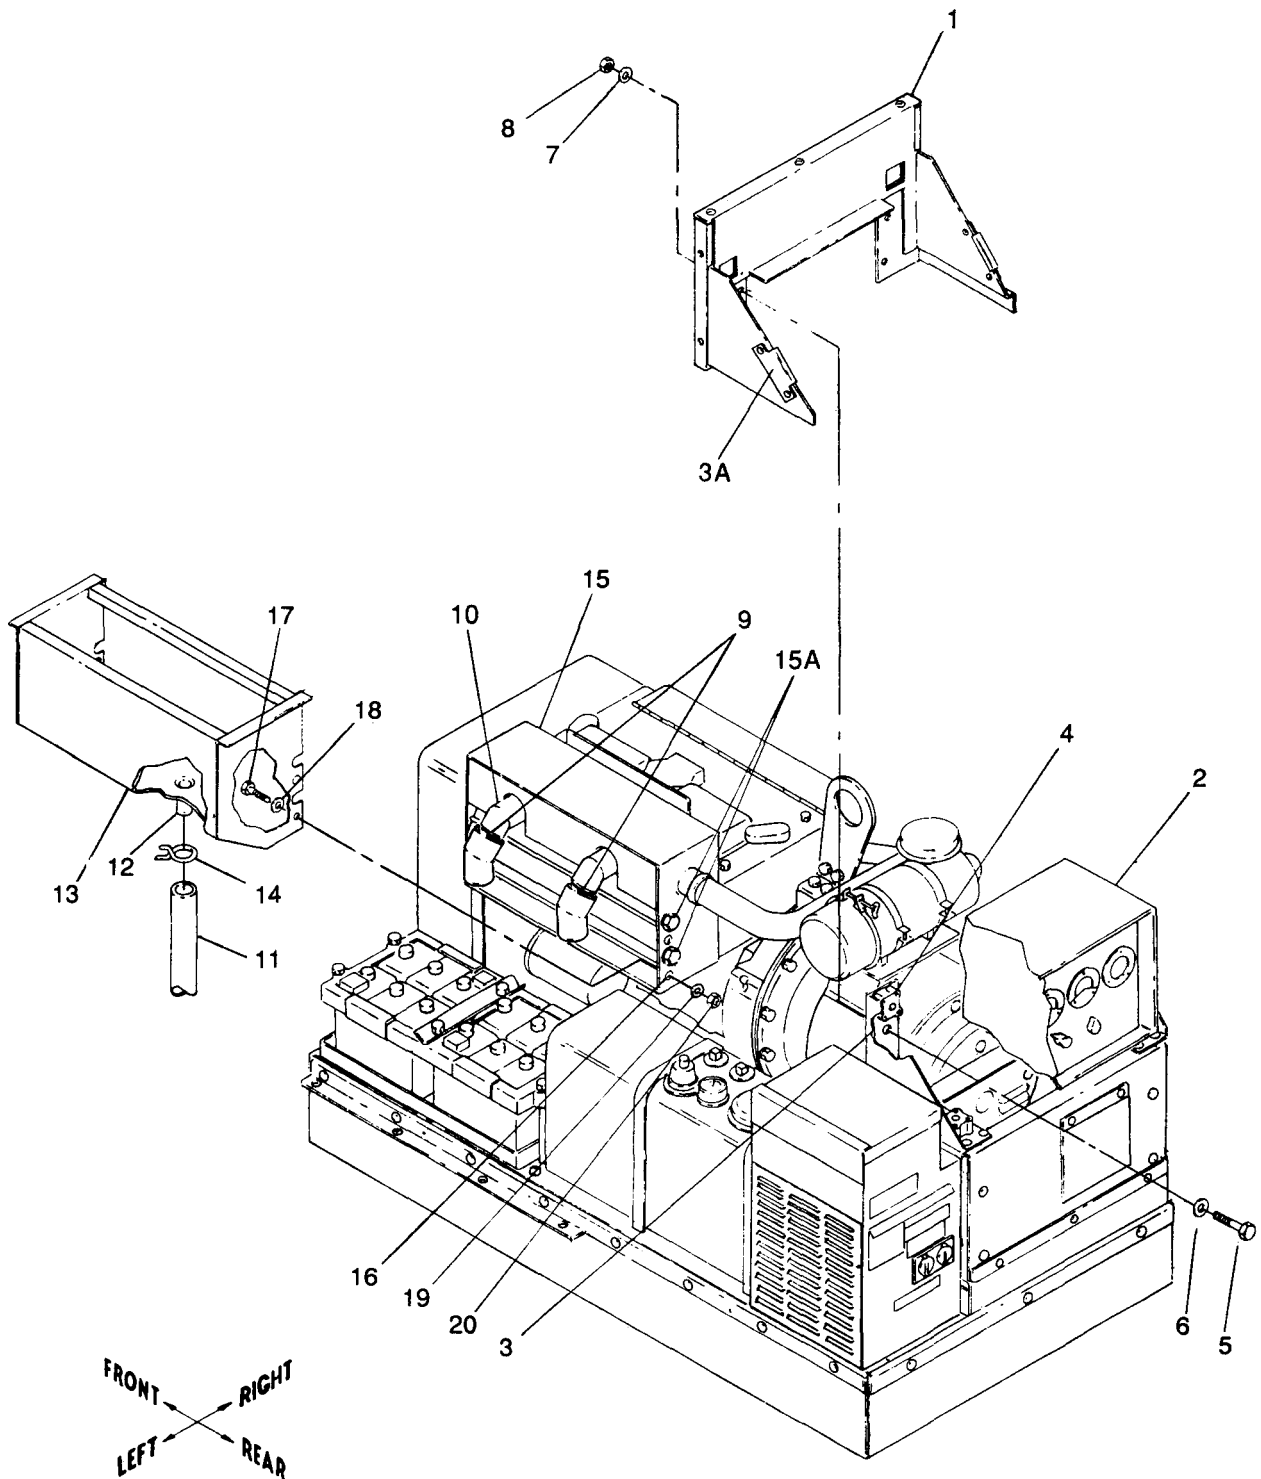

Figure 10-4. Installation of Rear Closure Assembly and Exhaust Plenum Assembly
(2) Refer to figure 10-4 and locate rear closure assembly (1) behind mounting brackets (3). Seat clips (3A) of rear closure assembly (1) over mounting brackets (3), so that rear closure assembly (1) is positioned over vibration mount hardware. When positioned correctly, the rear closure assembly (1) is 1/4 inch higher than top of control cubicle (2). Using rear closure assembly (1) as template, mark and drill four 5/16 inch holes in mounting brackets (3).
(3) Cut a 23 in. length and a 14 in. length of adhesive backed teflon tape (as listed in Table 10-1, item 5). Apply adhesive backed teflon tape to a clean top edge (edge with three holes) and right edge (edge with two holes which will contact right panel assembly) of rear closure assembly (1). Use hand pressure to remove air bubbles. Clear tape from holes.
(4) Install rear closure assembly (1) to control cubicle support (3) with four screws (5), eight washers (6 and 7) and four locknuts (8) (as listed in Table 10-1, item 5).
(5) Torque screws (5) to 16 $\pm$ 2 ft-lbs dry.
(6) Refer to Operator and Organizational Maintenance Manual, paragraph 3-18, and install air cleaner assembly removed in step e. (1).
(1) Refer to figure 10-4 and install exhaust elbows (9) (as listed in Table 10-1, item 7) to generator exhaust (10). Point elbow openings downward (exhaust down).
(2) Install hose (11) over sleeve (12) at bottom of exhaust plenum (13). Install clamp (14) over hose (11) and sleeve (12).
(3) Install exhaust plenum assembly (13) over exhaust shutter assembly (15) until rear upper channel of plenum is flush with exhaust shutter assembly (15). Screws (15A) in exhaust shutter assembly (15) fit into plenum slots. (There will be 1-7/8 inch over-lap.) Using exhaust plenum assembly (13) as template, mark mounting holes (16) and drill four 5/16 inch holes in exhaust shutter assembly (15).